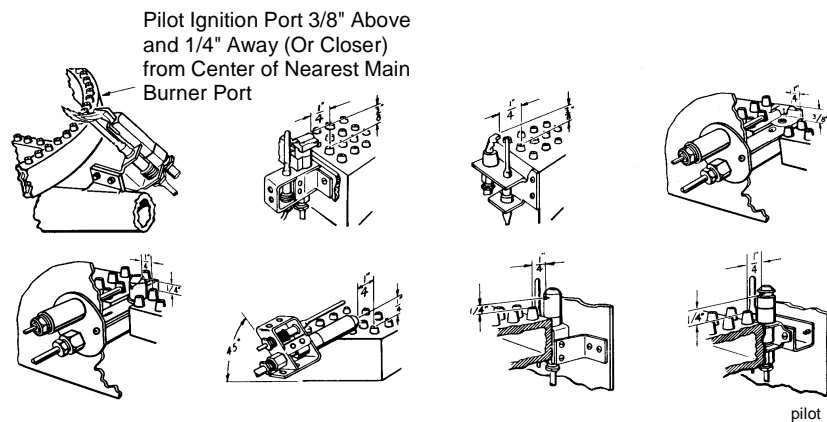

Figure 1: Pilot Location
This document is intended to aid the appliance engineer or authorized service contractor in making a standing pilot application. Pilot burners are manufactured with a variety of tips and mounting configurations. Representative types of mounting with standard pilots are illustrated in Figure 1. Dimensions shown are approximate and may vary, provided the requirements of good ignition are met. See *Good Practice Rules*.
- Locate the pilot in a position that has a fixed relation to the main burner (see Figure 1).